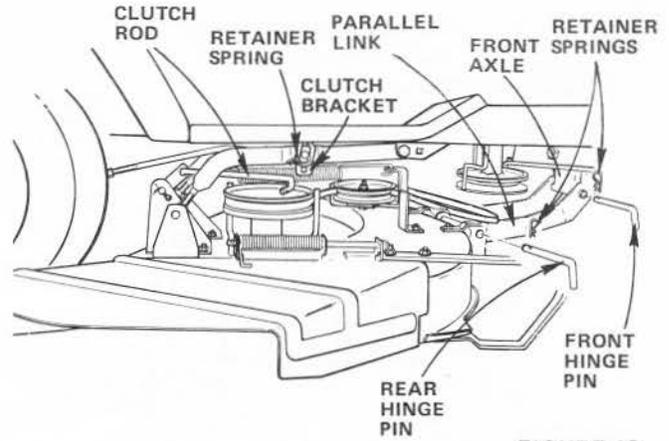

FIGURE 12
1. Install Front Hinge Pin through Axle and Parallel Link (Fig. 12). Secure with Retainer Spring.
2. Install Rear Hinge Pin through Mower Lift Brackets and Parallel Link (Fig. 12). Secure with Retainer Spring.